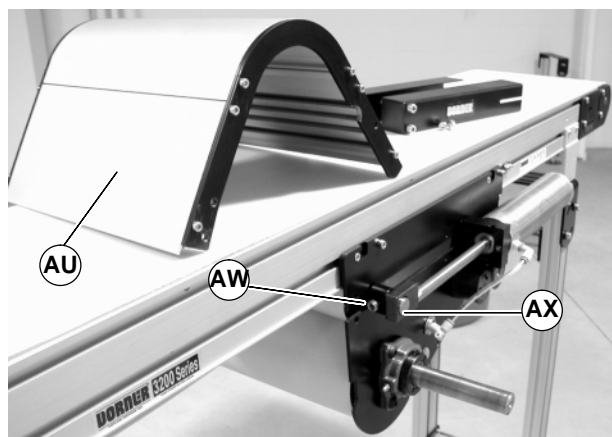

Figure 62
4. Loosen tensioning roller set screws (AW of Figure 62) on one side of center drive.